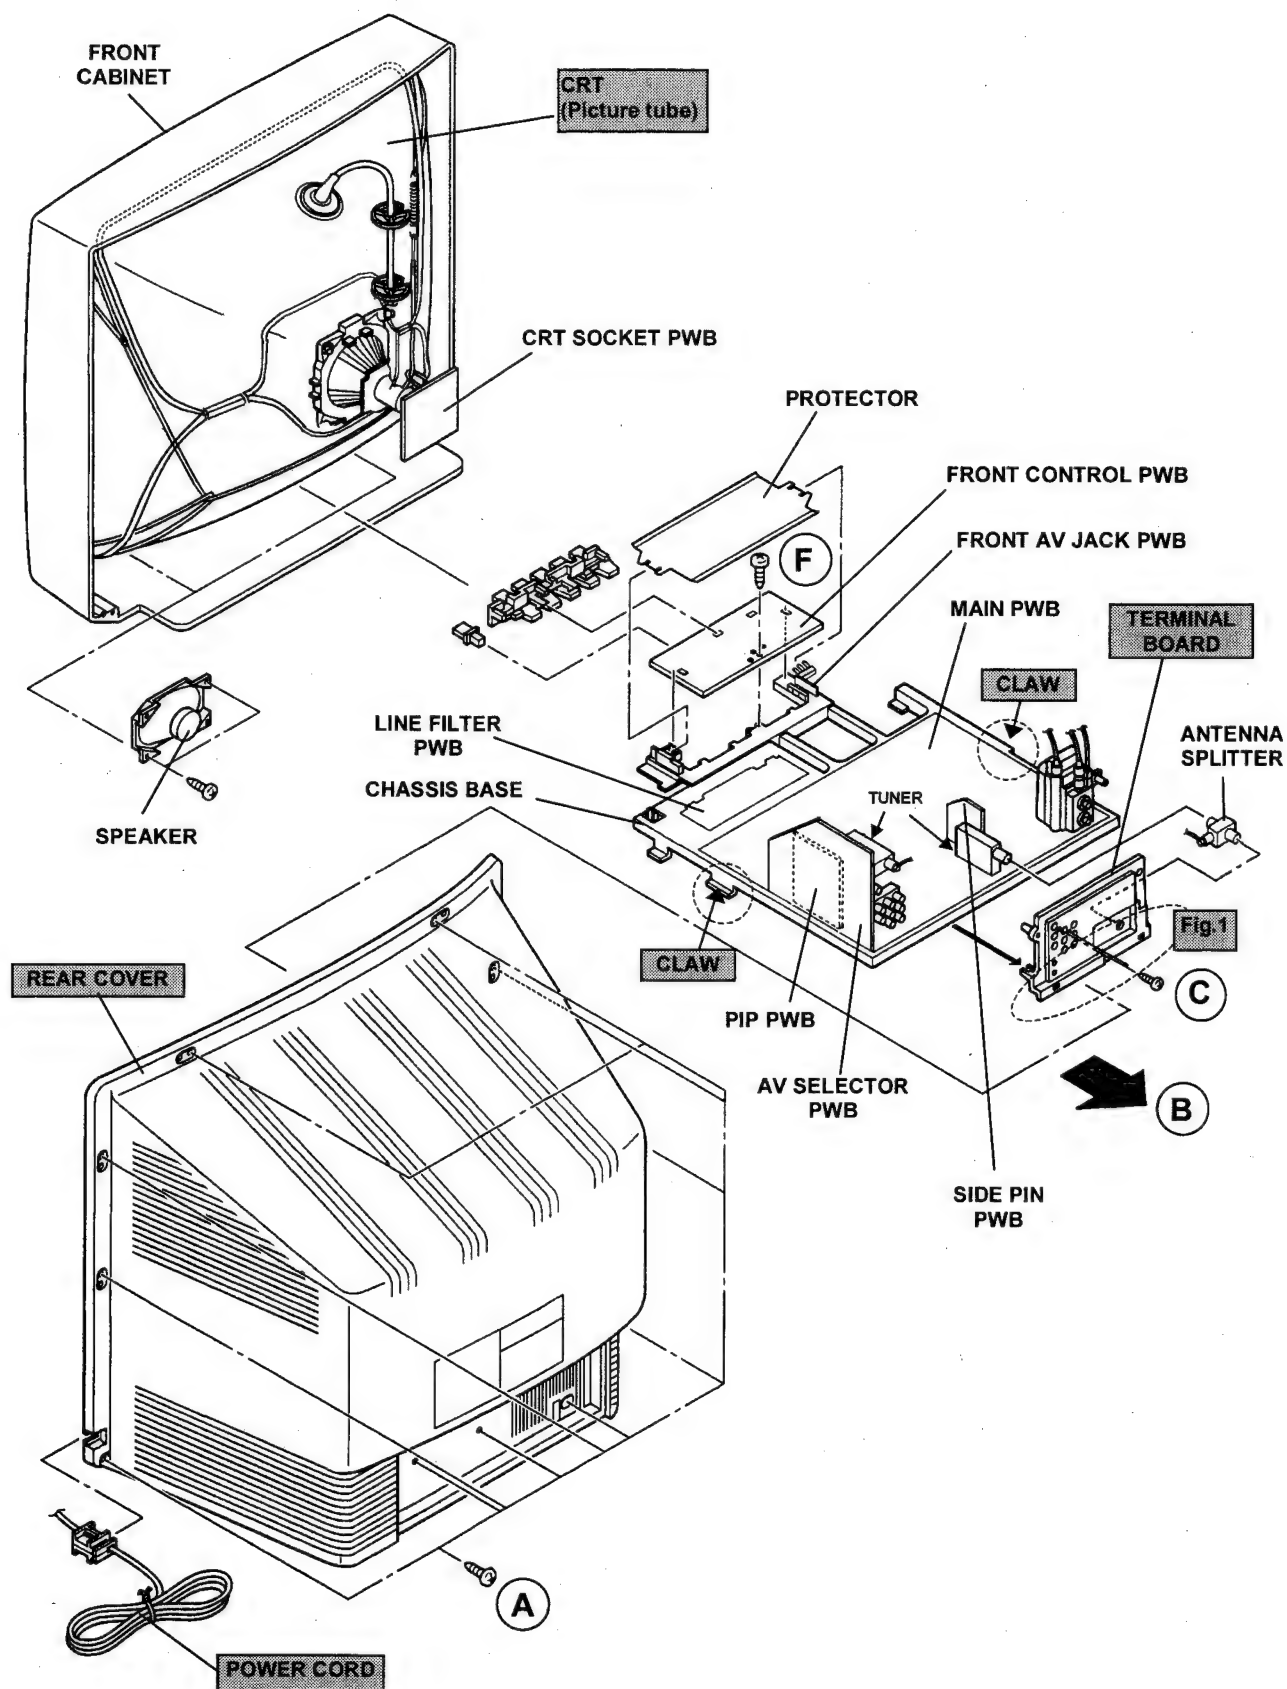

Fig. 2
2. As shown in Fig.2, remove the **11** screws marked **(A)**.
2. Withdraw the chassis backward along the rail in the arrow direction marked **(B)** as shown in the Fig.2.
1. As shown in Fig.2, remove the **2** screws marked **(C)**.
1. As shown in Fig.2, remove the screw marked **(F)**.
| (4) System constant check and setting※It must not adjust without signal. <ol style="list-style-type: none"> <li>1) Simultaneously press the DISPLAY key and VIDEO STATUS key of the remote control unit.</li> <li>2) The SERVICE MENU screen of Fig.1 will be displayed.</li> <li>3) While the SERVICE MENU on displaying, again simultaneously press the DISPLAY and VIDEO STATUS keys to display the Fig.2 SYSTEM CONSTANT screen.</li> <li>4) Refer to the SYSTEM CONSTANT table and check the setting items. Where these differ, select the setting item with the MENU UP / DOWN key and set the correction with the MENU LEFT / RIGHT keys. (The letters of the selected item are displayed in yellow.)</li> <li>5) After adjusting, release the MENU LEFT / RIGHT key to store the setting value.</li> <li>6) Press the EXIT key twice to return the normal screen.</li> </ol> |  <p>Fig.1</p>  |
| (6) User settingsCheck the user setting items according to Table 2.Where these do not agree, refer to the OPERATING INSTRUCTIONS and set the items as described.   |  <p>Fig.2</p> |